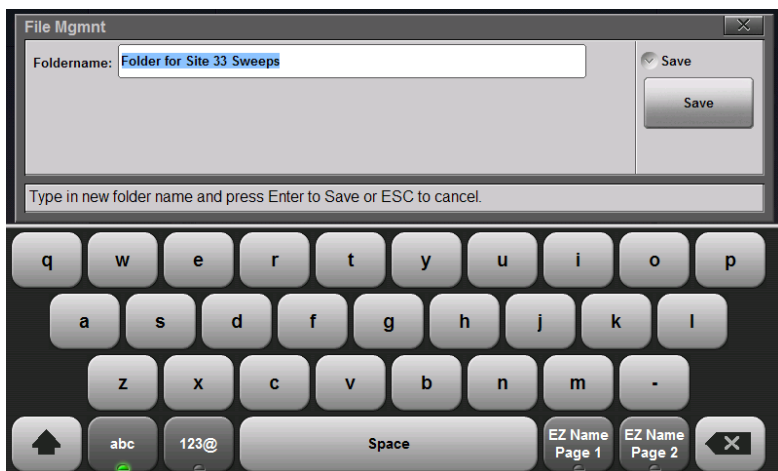

Figure 10-21. Name the Created Folder
4. Name the folder using the on-screen keyboard. Refer to “Choose the File Name” on page 10-10 for additional information (Figure 10-21).